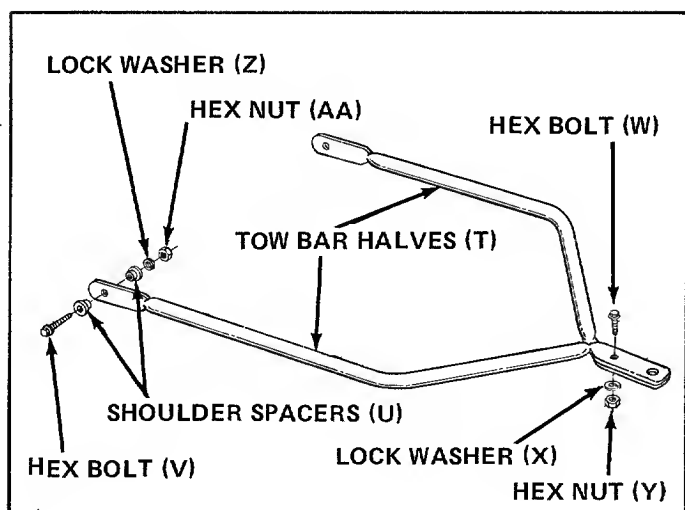

FIGURE 15
2. Place tow bar half in position on frame. Place one shoulder spacer (U) between frame and tow bar. Next, place shoulder spacer (U) and hex bolt (V) through tow bar and frame. Secure with lock washer (Z) and hex nut (AA). See figure 15.
3. Secure the two tow bar ends together with hex bolt (W), lock washer (X) and hex nut (Y). See figure 15.